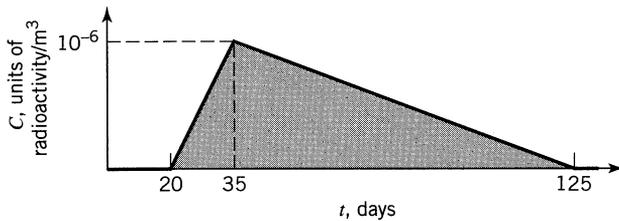

Figure P11.5
- 11.5. A batch of radioactive material is dumped into the Columbia River at Hanford, Washington. At Bonneville Dam, about 400 km downstream the flowing waters ($6000 \text{ m}^3/\text{s}$) are monitored for a particular radioisotope ($t_{1/2} > 10 \text{ yr}$) and the data of Fig. P11.5 are obtained.